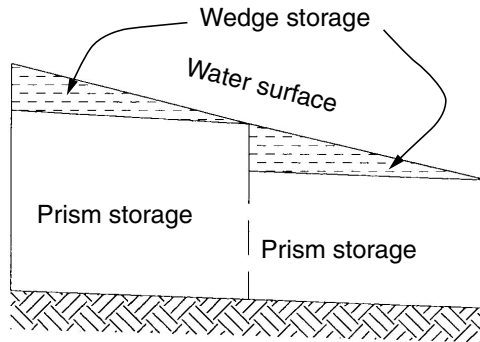

FIGURE C-2 Channel storage.
**Channel storage** Water temporarily stored in channels while en route to an outlet or the in-channel storage volume depending on the stage of water surface in the channel. Basically, it is the volume of water in the channel at any point. It consists of prism storage and wedge storage. Generally, storage is greater during the rising limb than the receding limb of a storm hydrograph. *See* Figure C-2.